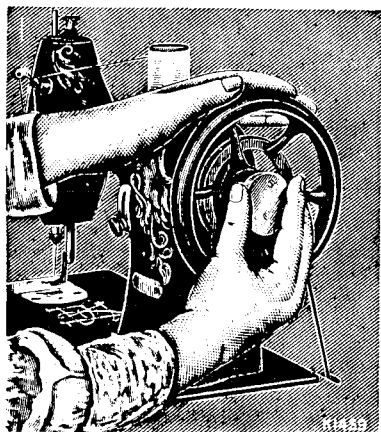
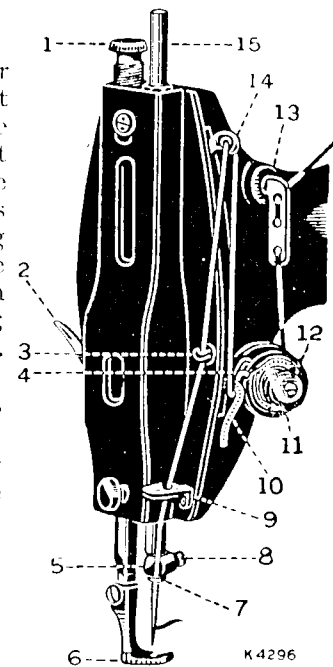
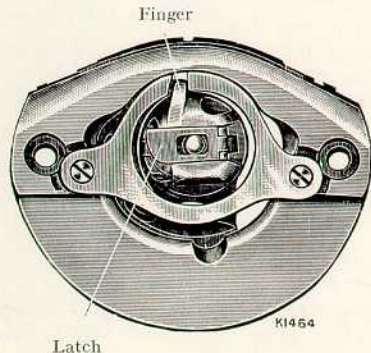

Fig. 1.
Fig. 2.
Fig. 3.
*NOTE.*—If the machine is fitted with machine pulley stop motion, loosen machine pulley when learning to treadle (see Fig. 1).
When familiar with the working movement, re-tighten the machine pulley (see Fig. 1) if the machine is fitted with a machine pulley stop motion. Place a piece of calico or cloth under the presser foot (6, Fig. 2), lower the latter upon the material by means of the presser bar lifter (2, Fig. 2) and again work the machine, without it being threaded, until you have become accustomed to guiding the material.
This device allows the machine pulley to run free, so that bobbins may be wound, and correct treading acquired without operating the mechanism. To loosen the pulley, hold it with the left hand, and with the right hand turn the stop motion screw over towards you, as shown in Fig. 1.
(See Fig. 2.)
(See Fig. 2)
Turn the machine pulley toward you until the take-up lever (14, Fig. 2) is at its highest point, draw open the slide in the bed of the machine and, reaching down the thumb and forefinger of the left hand, open the latch (see Fig. 3) and withdraw the bobbin case.
After threading, hold the bobbin case by the latch between the thumb and forefinger of the left hand and replace it on the centre stud of the bobbin case holder, with its position finger opposite the notch at the top of the shuttle race, as shown in Fig. 3; then release the latch and press the bobbin case back until the latch catches the groove near the end of the stud. Allow the end of thread to hang free, and close the slide in the machine bed.
Raise the thread take-up lever (14, Fig. 2) to its highest point and lift the presser foot; then move the material back and to the left, and sever the threads. Leave the ends of the threads a few inches long under the presser foot.
To increase the pressure, give the thumb screw (1, Fig. 2) a few turns downwards. To lessen the pressure, turn the screw upwards. Pressure should be only sufficient to enable the feed to move the work evenly.
The machine being improperly threaded, the tensions being too tight, the needle being bent or having a blunt point, the thread being too coarse for the size of the needle (see Table on inside of back cover), the thread take-up spring (4, Fig. 2) being broken.
**Stitches Looping.**—This is regulated by the tensions (see page 11). See that both the bobbin case and the needle are properly threaded, and that the thread used is of good quality and the correct size for the needle (see Table on inside of back cover). Make sure that the thread take-up spring (4, Fig. 2) is not broken.